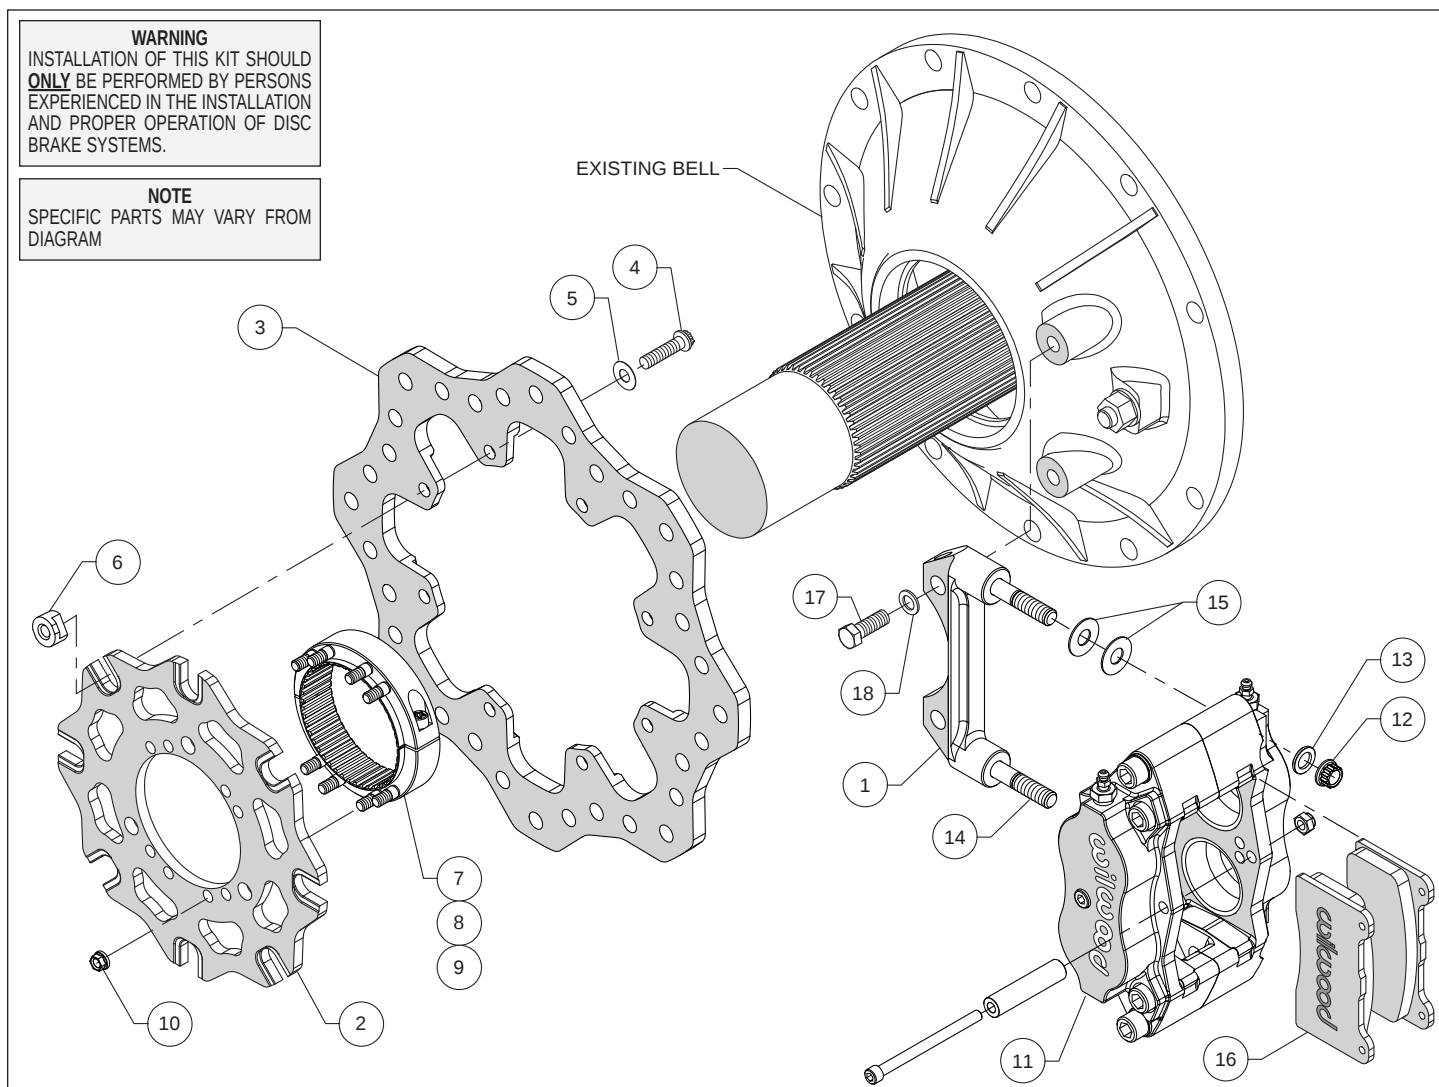

Figure 1. Typical Installation Configuration
- Orient the bracket (1) as shown in Figure 1 and install using bolts (17) and washers (18). Temporarily tighten the mounting bolts. **NOTE:** The bracket must fit squarely against the mount bosses on the bell. Inspect for interference from casting irregularities, machining ridges, burrs, etc. Remove the bracket mounting bolts one at a time, apply red *Loctite*® 271 to the threads, and torque to 60 ft-lb.
- Orient the rotor adapter (2) and the rotor (3), as shown in Figure 1, and attach using bolts (4), washers (5) and t-nuts (6), Figure 1. Apply red *Loctite*® 271 to the bolt threads before installing. Finger tighten. After all t-nuts have been installed, torque bolts in an alternating sequence to 220 in-lbs. Please refer to Wilwood's data sheet DS-669 (available at www.wilwood.com/Pdf/DataSheets/ds669.pdf) for complete t-nut bolt kit installation instructions.
- Orient the axle clamp assembly (7, 8 and 9, pre-assembled) as shown in Figure 1 and install onto the rotor adapter (2) using nuts (10). Tighten nuts part way while still allowing clamp-to-rotor movement. The nuts will be torqued later, after aligning the rotor. **NOTE:** *The axle clamp should be positioned inside of the rotor as shown in Figure 1, not offset, or outside of the rotor adapter.*
- Lubricate the caliper mounting studs (14) with lightweight oil. Initially place two .035" thick shims (15) on each stud as shown in Figure 1. Mount the caliper (11) onto the bracket (1) using lock nuts (12) and washers (13), Figure 1. Temporarily tighten the lock nuts and view the rotor through the top opening of the caliper. The rotor should be centered in the caliper. If not, slide the rotor/adapter assembly on the axle until the rotor is centered in the caliper. Tighten the clamp bolts (9) first, locking the clamp to the axle. Torque nuts (10) to 140 in-lbs.
- Remove the caliper center bridge pad retainer bolt, nut, and tube from the caliper. Insert the brake pads (16) into the caliper, with the friction material facing the rotor. Check that the top of the brake pad is flush with the outside diameter of the rotor. If not, adjust by adding or subtracting shims (15) between the caliper and the bracket. After the caliper pad height is set, torque the caliper lock nuts (12) to 30 ft-lb. Secure the brake pads in place with the center bridge pad retainer tube, bolt, and locknut. The locknut should be snug without play in the bolt or tube. Be cautious not to over tighten.